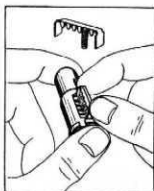

Fig. 70—Inserting Spring Retainer
4. Reverse the lock cylinders so that the head of the cylinder is now toward you. Insert the spring retainer so that one of its six prongs enters into each of the springs and the two large end prongs slide into the slots at either end of the cylinder (fig. 70). Press the retainer down with one finger.